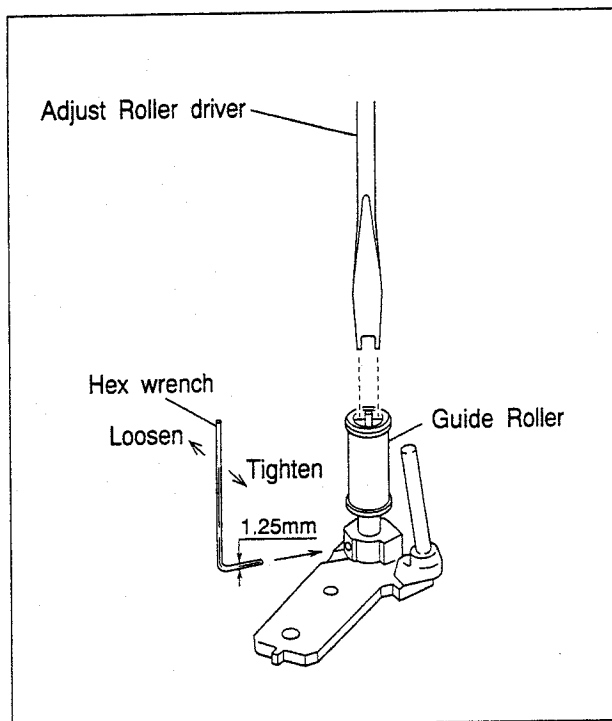
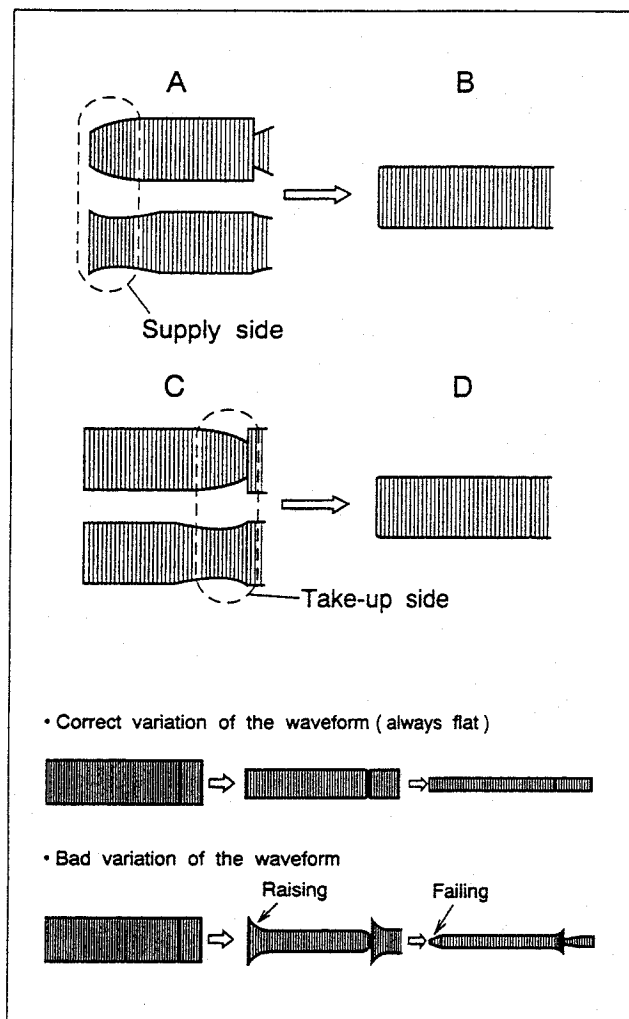
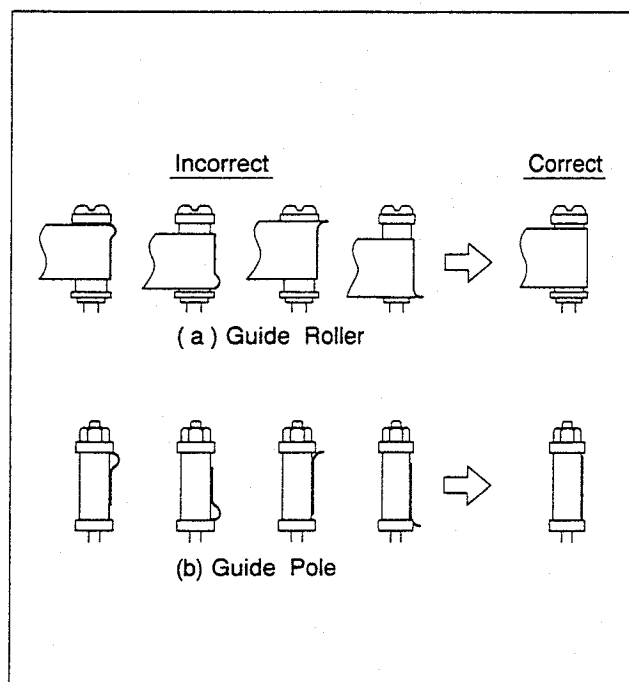

Fig. 2-7-2
Fig. 2-7-3
Fig. 2-7-4
- (6) When the FM waveform does not remain flat during this process,first slightly loosen the set screw located at the bottom of the guide rollers.Using the guide roller adjustment tool (Roller driver) ,adjust the supply and take-up guide rollers (refer to Fig.2-7-2) to obtain the correct waveform as indicated in Fig.2-7-3.
- (7) By pressing the TV PROG buttons several times,vary the FM waveform output from maximum to minimum (and vice versa) gradually,and confirm that the variation proceeds in flat shape, as shown in Fig.2-7-3.
- (8) Next playback the LP staircase portion of the alignment tape [MHPE-L] and adjust the tracking control from maximum to minimum the FM waveform,confirm that FM waveform variation is always flat.
- (9) Record the signal and play it back in both of the SP and LP mode,confirm that the FM waveform is flat in both mode.
- (10) After adjustments,tighten the set screw of the guide rollers.
- (11) Confirm that the tape wrinkling does not occur at the roller upper or lower limits as indicated in Fig.2-7-4.